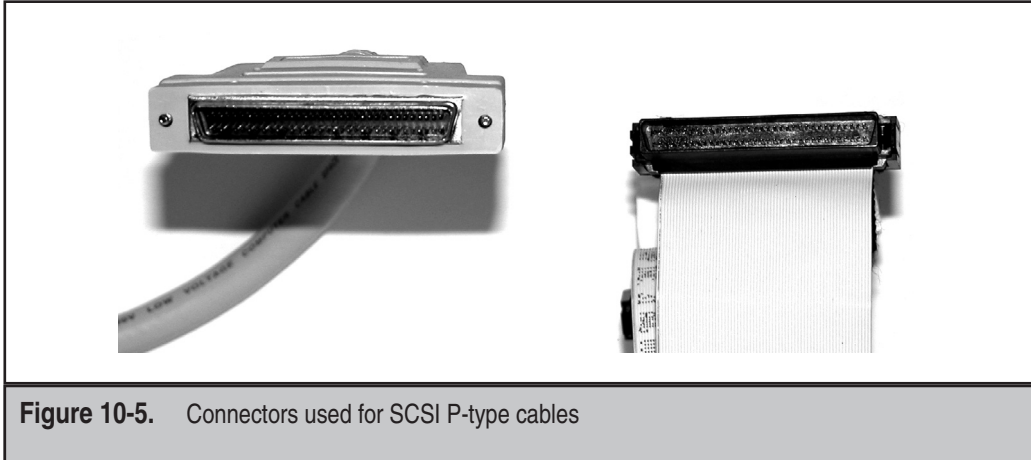

Figure 10-5. Connectors used for SCSI P-type cables
- ▲ Cable P has 68 conductors and supports standards built on 16-bit transfer widths. Figure 10-5 shows the two connectors used for P-type cables.